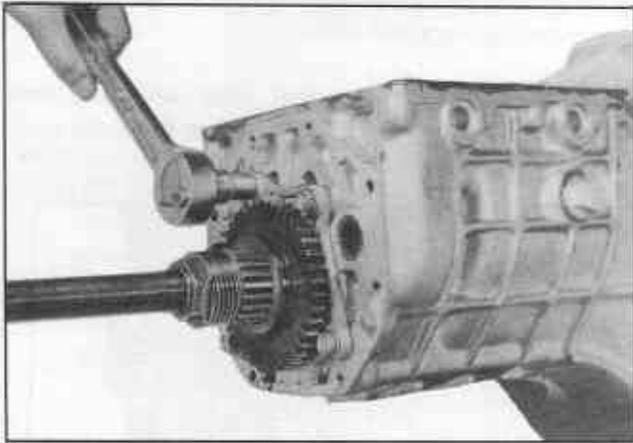

Fig. TM-44 Removing main shaft bearing retainer
12. Remove the four bolts that secure the main shaft bearing retainer to the transmission case (See Fig. TM-44).